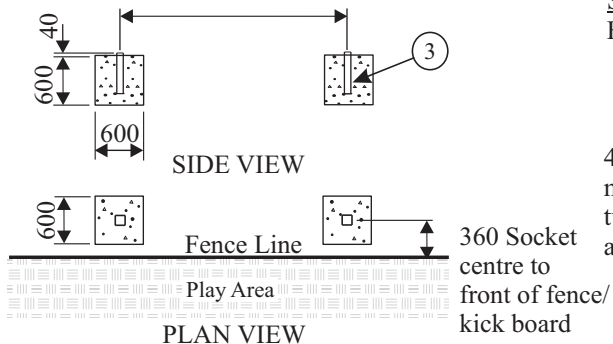

Fig.2a
**1** Dig holes 600x600 square x 600mm deep at centres shown in Fig 2a. Position the sockets (3) 360mm centrally back from the front (court side) of the fence/kick board. Concrete the sockets in leaving approx 40mm from top of concrete to ground level (for turf). Use a spirit level to make sure that the sockets are truly vertical and support until set. Replace the turf extracted when the concrete has cured (allow the concrete to set before assembling the rest of the goal).